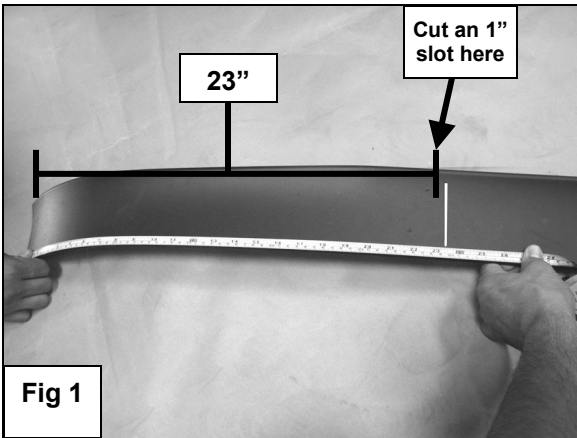

Fig 1
2. Measure from the driver outer edge of the air dam 23" towards the inside of the car and mark the location. Use a hack saw to cut a 1" x 3 1/2" gap on the air dam (**Figure 1**). **NOTE:** Use the mark as center of the cutting location.